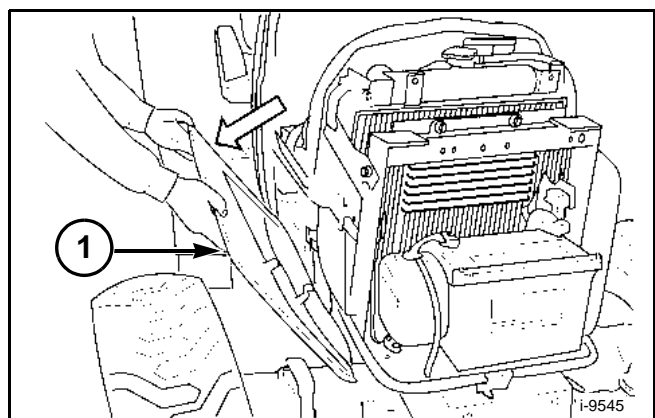

FIG. 3
FIG. 3: The hood must be open to open a side cover (1). Open a side cover by pulling out the upper portion. Once a cover is open, the hood may be lowered. Open the hood to close the cover.